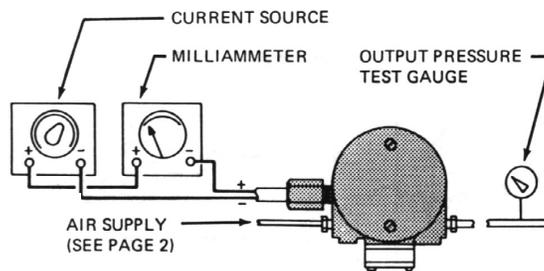

Figure 7.
Calibration setup is shown in Figure 7.
1. Set up equipment as shown in Figure 7.